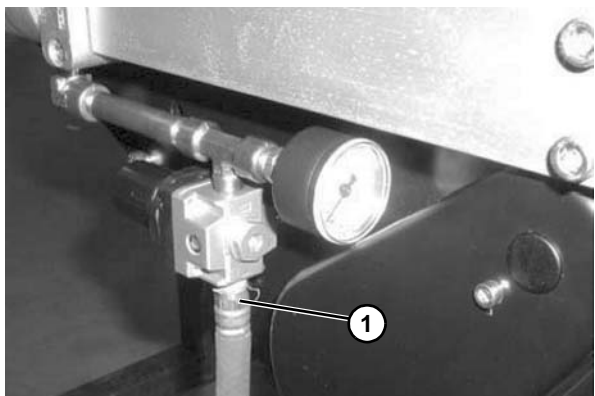

Figure 105
1. Remove air supply and remove hose (Figure 105, item 1) from the center drive.